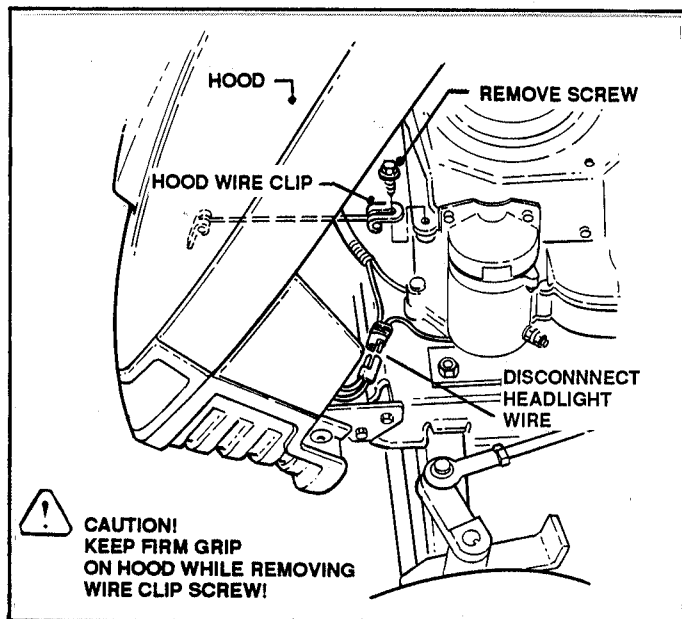

FIGURE 29
2. Remove hood cable clip from engine. See Figure 29.